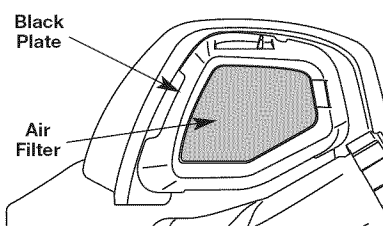

Fig. 38
2. Remove the air filter (Fig. 38).
6. Replace the air filter into the base plate (Fig. 38).